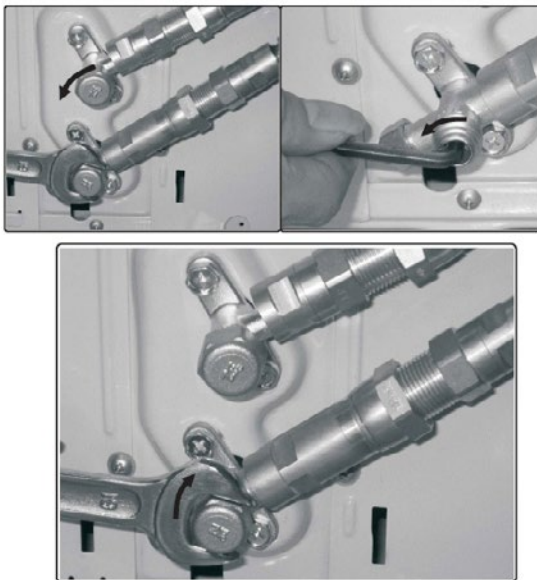

Fig. 6.6
6. Now remove the cover on the bottom valve using a 19 mm open-ended spanner. Open the valve by turning it counter-clockwise as far as it will go using a 5 mm Allen key. The valve is now open. If the valve is not opened fully, the system may malfunction and suffer damage. Screw the cover back on to the bottom valve and tighten it well to ensure that it is properly sealed. See Fig.6.6.